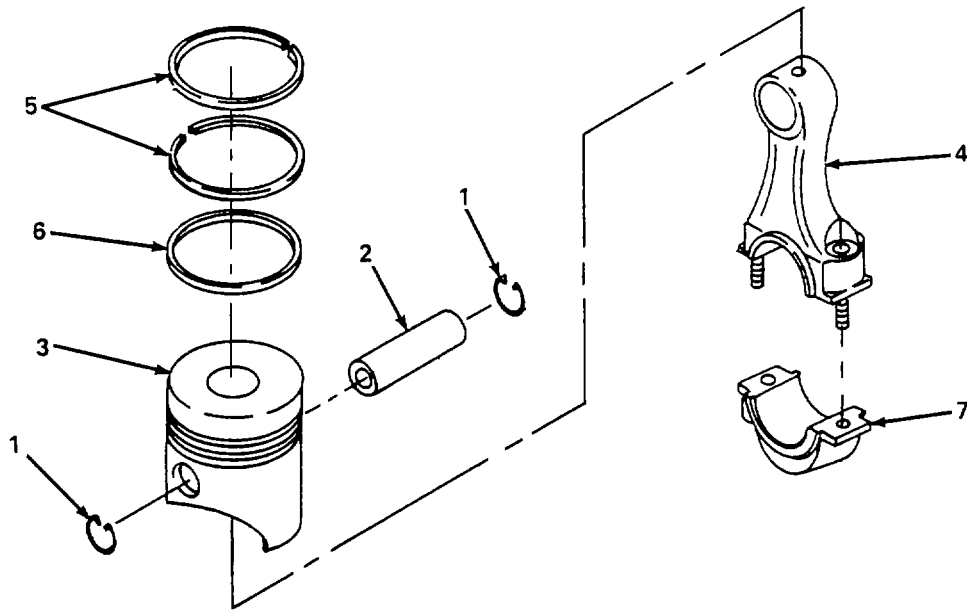

Figure 6-20. Piston and Connecting Rod Assemblies, Repair.
**6-20. Piston and Connecting Rod Assemblies (Cont).****b. Repair.** (figure 6-20)
- (1) Remove piston and connecting rod assemblies (para. a.).
- (2) Remove two retaining rings (1), wrist pin (2), and piston (3) from connecting rod (4). Discard retaining rings (1).
- (3) Remove two compression rings (5) and oil ring (6) from piston (3).
- (4) Clean all items with dry cleaning solvent and dry thoroughly.
- (5) Clean out piston ring grooves.
- (6) Inspect piston (3) and replace if scored, top is pitted, or piston measurement is less than 3.198 in. (81.160 mm).
- (7) Inspect connecting rod (4) and bearing cap (7), and replace if cracked or bent.
- (8) Inspect wrist pin (2) and replace if bent or excessively worn.